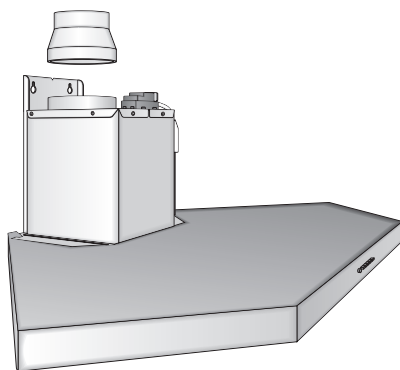

Fig. 5
- Fix the anchorage bracket for the closing panel to the cooker hood and lock into place the rear closing panel; finally insert from beneath the two (2) fixing screws (Fig. 5).